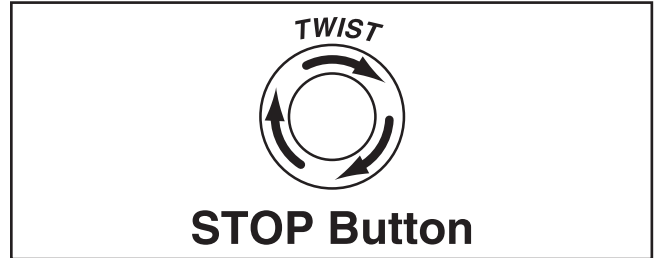

Figure 25. Resetting EMERGENCY STOP button.
5. Twist each EMERGENCY STOP button clockwise until it springs out (see **Figure 25**). This resets switches so machine can start.